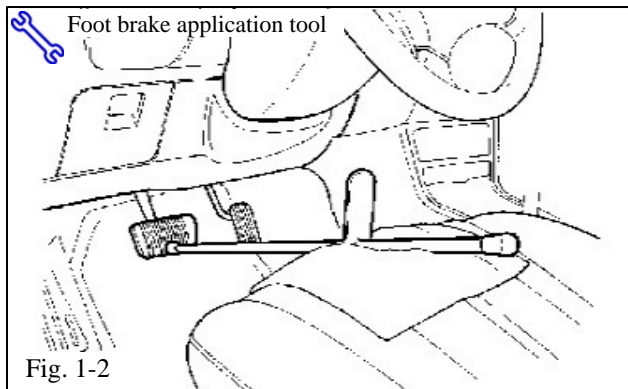

Fig. 1-2
- (d) Add seat protection (blanket) and apply the foot brake using a foot brake application tool (Fig. 1-2).